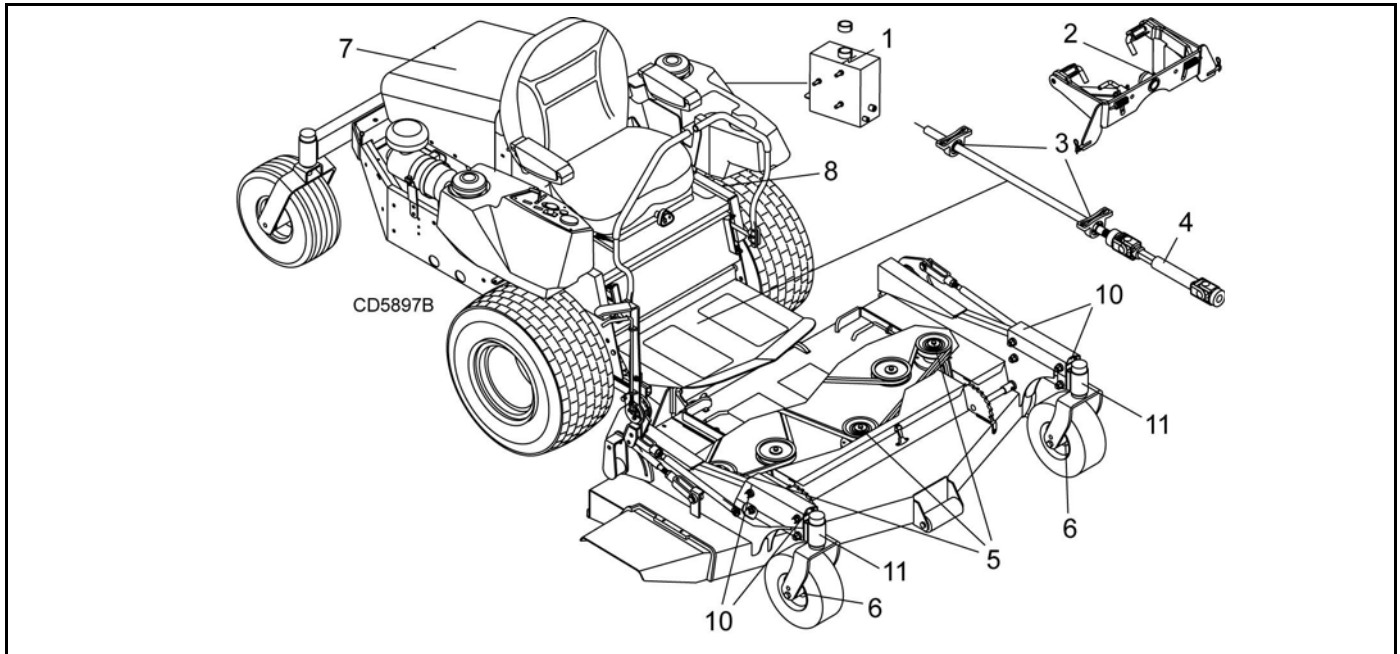

Figure 5. Lubrication Diagram
2. See Figure 5 for lubrication points and frequency or lubrication based on normal operating conditions. Severe or unusual conditions may require more frequent lubrication.